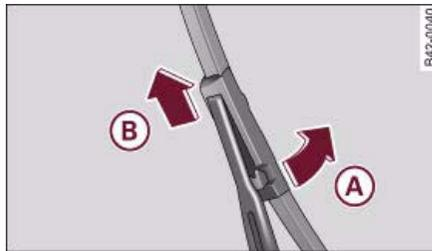

Fig. 57 Removing the wiper blades
- Now twist the wiper blade off the wiper arm in the direction of the arrow **A** ⇒ fig. 57.
- Fit the plastic cap of the wiper blade onto the end of the wiper arm (in **opposite** direction of arrow **B** ⇒ fig. 57).